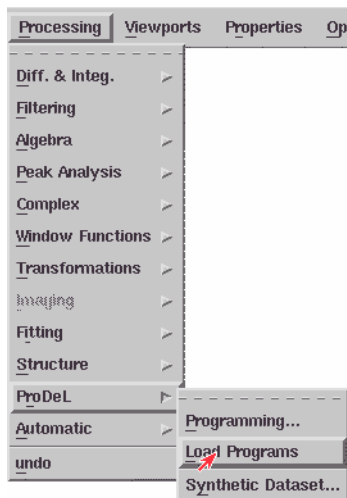

Figure 3-18 Loading the ProDeL program.
3. **Load the Signal to Noise ProDeL program.** Click the Processing > ProDeL > Load Programs. (See Figure 3-18.)